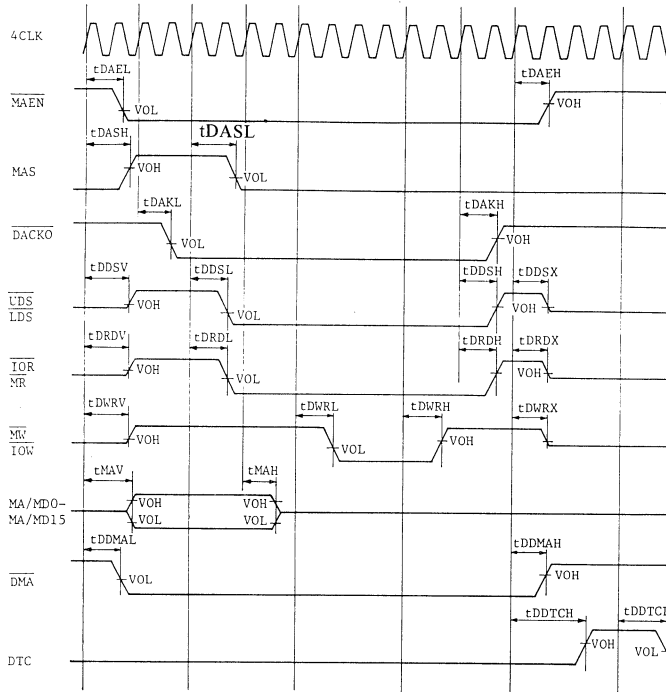

Fig. 9 Document Image Bus DMA Timing
| Address Enable Active Delay Time   | tDAEL  | Fig. 8, Fig. 9 | –   | (70) | 150 | ns   | $\overline{MAEN}$                   |
| Address Enable Inactive Delay Time | tDAEH  | Fig. 8, Fig. 9 | –   | (70) | 140 | ns   | $\overline{MAEN}$                   |
| Address Strobe Active Delay Time   | tDASH  | Fig. 8, Fig. 9 | –   | (70) | 140 | ns   | MAS                                 |
| Address Strobe Inactive Delay Time | tDASL  | Fig. 8, Fig. 9 | –   | (60) | 120 | ns   | MAS                                 |
| Data Strobe Valid Delay Time       | tDDSV  | Fig. 8, Fig. 9 | –   | (60) | 140 | ns   | $\overline{UDS}$ , $\overline{LDS}$ |
| Data Strobe Active Delay Time      | tDDSL  | Fig. 8, Fig. 9 | –   | (75) | 140 | ns   | $\overline{UDS}$ , $\overline{LDS}$ |
| Data Strobe Inactive Delay Time    | tDDSH  | Fig. 8, Fig. 9 | –   | (75) | 140 | ns   | $\overline{UDS}$ , $\overline{LDS}$ |
| Read Valid Delay Time              | tDRDV  | Fig. 8, Fig. 9 | –   | (60) | 140 | ns   | $\overline{IOR}$ , $\overline{MR}$  |
| Read Active Delay Time             | tDRDL  | Fig. 8, Fig. 9 | –   | (70) | 140 | ns   | $\overline{IOR}$ , $\overline{MR}$  |
| Read Inactive Delay Time           | tDRDH  | Fig. 8, Fig. 9 | –   | (75) | 140 | ns   | $\overline{IOR}$ , $\overline{MR}$  |
| Write Valid Delay Time             | tDWRV  | Fig. 8, Fig. 9 | –   | (60) | 140 | ns   | $\overline{IOW}$ , $\overline{MW}$  |
| Write Active Delay Time             | tDWRL  | Fig. 8, Fig. 9 | –   | (70)        | 140         | ns   | $\overline{IOW}$ , MW |
| Write Inactive Delay Time           | tDWRH  | Fig. 8, Fig. 9 | –   | (80)        | 140         | ns   | $\overline{IOW}$ , MW |
| Address Valid Delay Time            | tMAV   | Fig. 8, Fig. 9 | –   | (75)        | 140         | ns   | MA/MD0-MA/MD15        |
| Address Hold Delay Time             | tMAH   | Fig. 8, Fig. 9 | 25  | (50)        | –           | ns   | MA/MD0-MA/MD15        |
| DMA Acknowledge Active Delay Time   | tDAKL  | Fig. 9         | –   | (60)        | 140         | ns   | $\overline{DACKO}$    |
| DMA Acknowledge Inactive Delay Time | tDAKH  | Fig. 9         | –   | (65)        | 140         | ns   | $\overline{DACKO}$    |
| DMA Active Delay Time               | tDDMAL | Fig. 9         | –   | (80)        | 140         | ns   | $\overline{DMA}$      |
| DMA Inactive Delay Time             | tDDMAH | Fig. 9         | –   | (70)        | 140         | ns   | $\overline{DMA}$      |
| DTC Active Delay Time               | tDDTCH | Fig. 9         | –   | 4CLK+75 | 4CLK140 | ns   | DTC                   |
| DTC Inactive Delay Time             | tDDTCL | Fig. 9         | –   | (50)        | 130         | ns   | DTC                   |